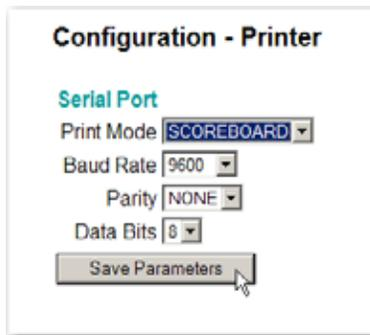

FIG. 210 CONFIGURATION - PRINTER/SAVING SCOREBOARD PARAMETER
- Step 3. From the Configuration - Printer page click on the Print Mode pull down list. (See Fig. 210)
Step 5. Click on the Save Parameters button. (See Fig. 210)